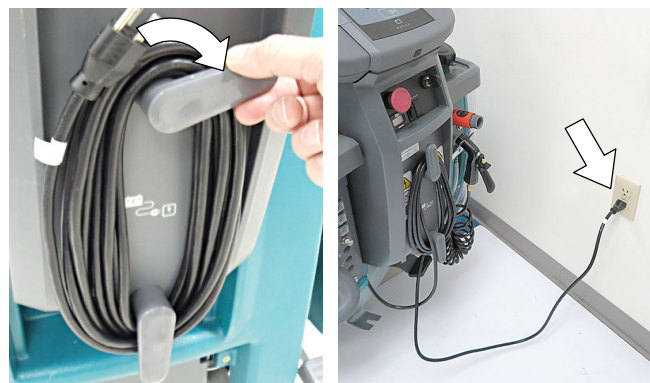

FIG. 120
4. For models equipped with an on-board charger, remove the charger's power cord from the storage hooks and plug power cord into a properly grounded wall outlet (Figure 120).